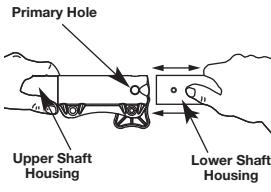

Fig. 2
- While firmly holding the upper shaft housing, pull the add-on straight out of the EZ-Link™ coupler (Fig. 2).
- While firmly holding the add-on, push it straight into the EZ-Link™ coupler (Fig. 2).